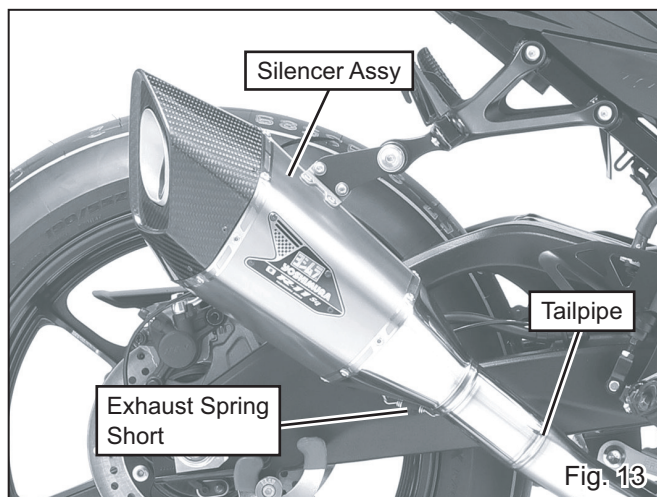

Fig. 13
- 19) Fixed Silencer Assy and Tailpipe with Exhaust Spring Short (See Fig. 13).